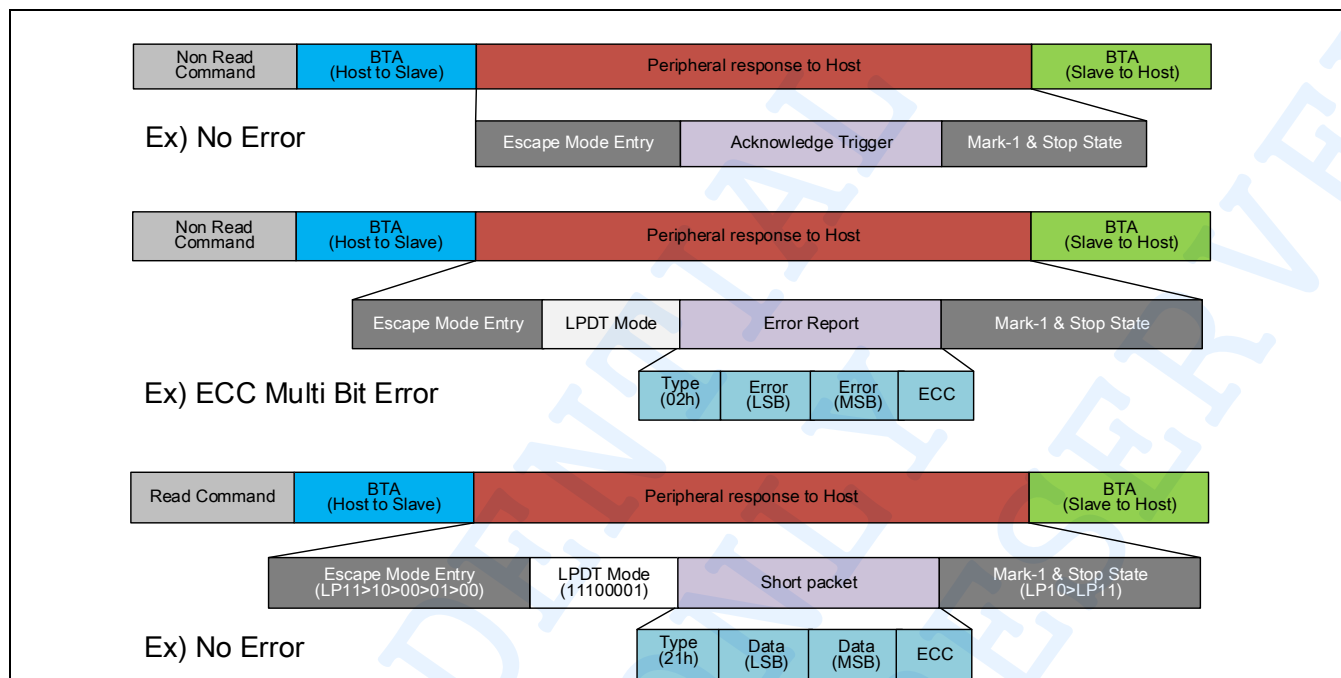

Figure 44 BTA Operation – No Error/Error after Non-Read Command
Figure 44 shows an example of BTA operations. The SLAVE get the lane controllability by BTA procedure to send the acknowledge packet on the successful data reception if there is no Error and send the acknowledge with error packet on the data reception if Error is occurred.
Figure 44 shows the structure of the Long packet. A Long packet shall consist of three elements: a 32-bit Packet Header (PH), an application-specific Data Payload with a variable number of bytes, and a 16-bit Packet Footer (PF). The Packet Header is further composed of three elements: an 8-bit Data Identifier, a 16-bit Word Count, and 8-bit ECC. The Packet Footer has one element, a 16-bit checksum. Long packets can be from 6 to 65,541 bytes in length. In the Long Packet, Packet Footer is added after Packet Data. Packet footer includes CRC calculated from Packet Data as checksum.